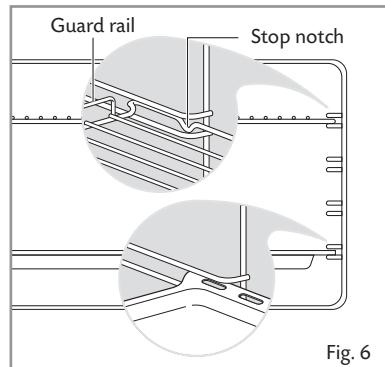

Fig. 6
- Slide into the guides, the shelf and the tray (Fig. 6). The rack must be fitted so that the safety notch, which stops it sliding out, faces the inside of the oven; the guard rail shall be at the back.